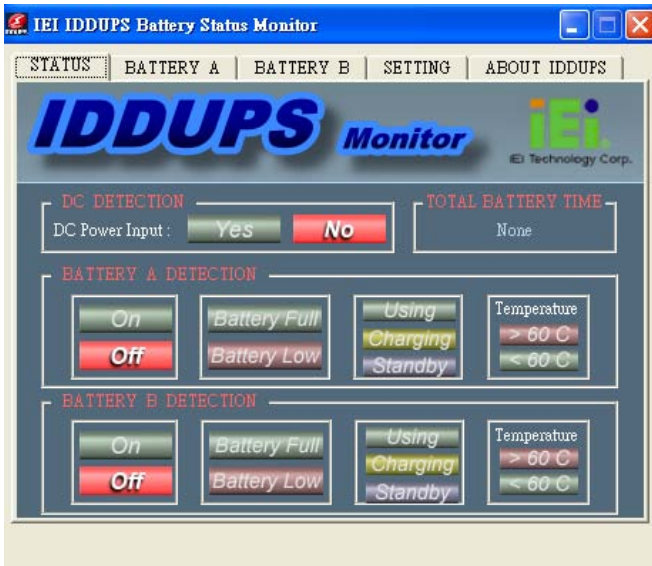

Figure 6: Status Information
- Step 4:** A screen shown in Figure 6 appears.